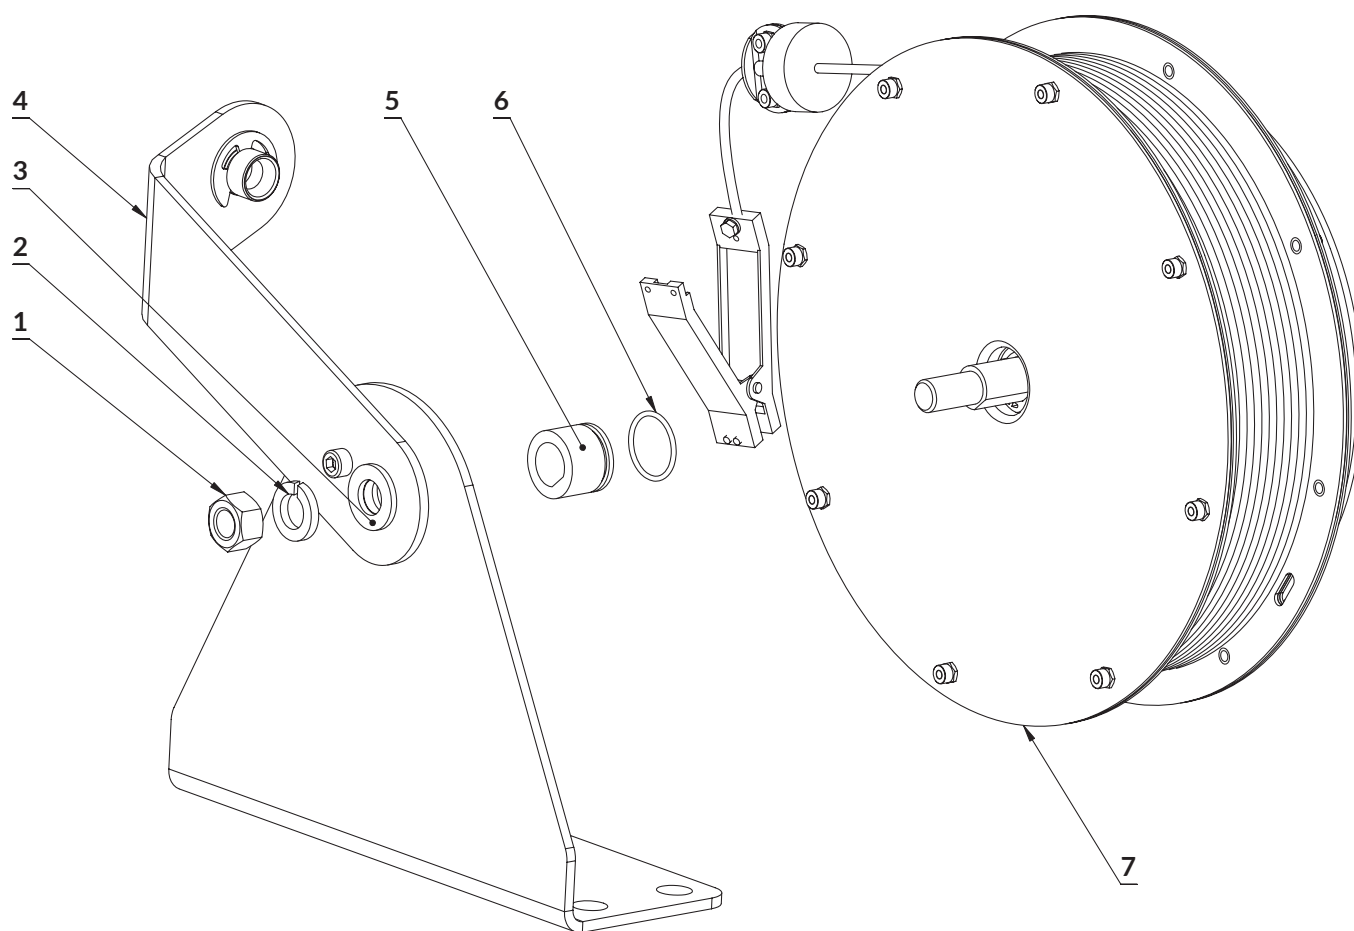

Figure : 4
3. Remove the items 1, 2, 3, 4 and 5 in turn, remove 6 from 5, clean the contact surfaces of 5 and 7, replace 6 (O-ring) onto 5 and apply the lubricant to the contact surfaces of 5, 6 and 7. (Refer Figure: 4)